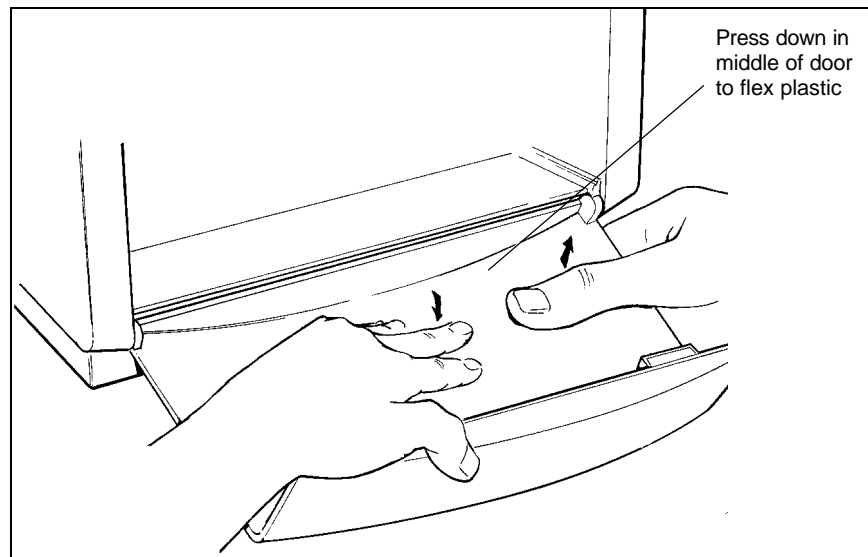

Figure 6-4. Removing the front bezel door
2. Carefully, press down at the middle of the door (along the hinge line) to flex the plastic enough to allow one of the hinges to be released from its mating cavity in the bezel. (Figure 6-4)